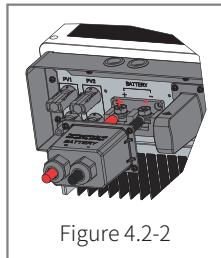

Figure 4.2-2
- **PV Input Connection:** Confirm the connection between EM and PV panels: polarities (+/-) are not reversed, refer to figure 4.2-2.